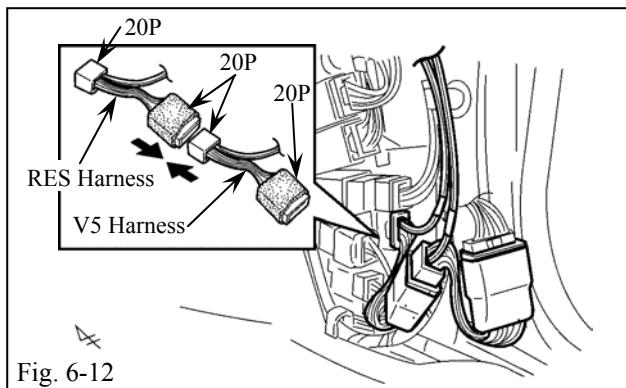
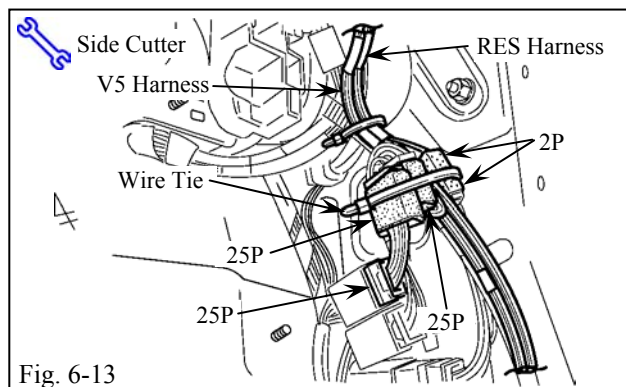

Fig. 6-12
Fig. 6-13
- (r) Connect the RES Harness' Blue 20P Male Connector to the V5 Harness' Blue 20P Female Connector. (Fig. 6-12)
- (s) Plug in the RES Harness' Blue 20P Connector into the Passenger Side Cowl Area. Then connect the V5 Harness' Blue 20P Connector to the Vehicle Harness' Blue 20P Connector. (Fig. 6-12)
- (1) Verify the Connectors are plugged in securely.
- (t) Secure the White 25P Connectors, RES Harness, V5 Harness and White 2P Connectors to the Vehicle Harness with 1 Wire Tie. (Fig. 6-13)